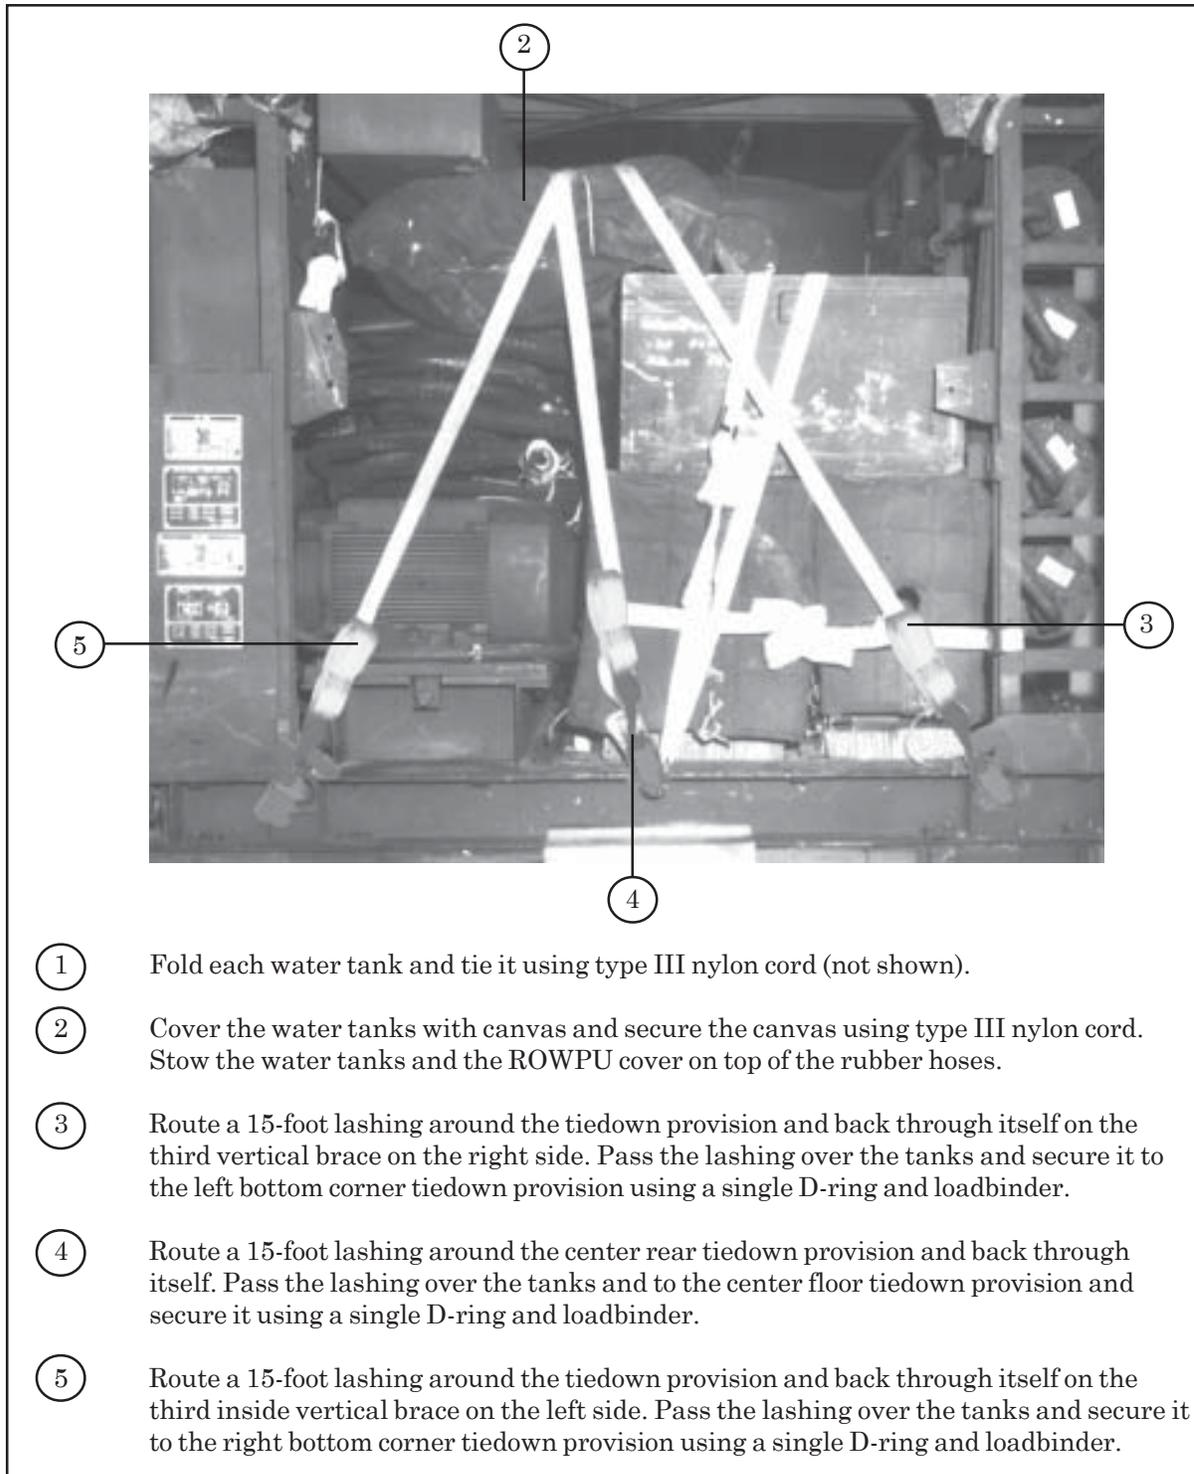

Figure 1-20. Water Tanks Prepared, Stowed and Secured
t. Prepare, stow and secure the water tanks as shown in Figure 1-20.